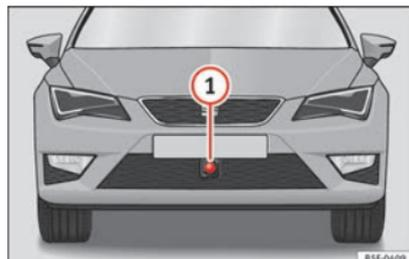

Fig. 151 On the front bumper: radar sensor.
A radar sensor is installed on the front bumper to determine the traffic situation » » **Fig. 151** ①. This sensor can detect vehicles in front up to a distance of approximately 120 m.